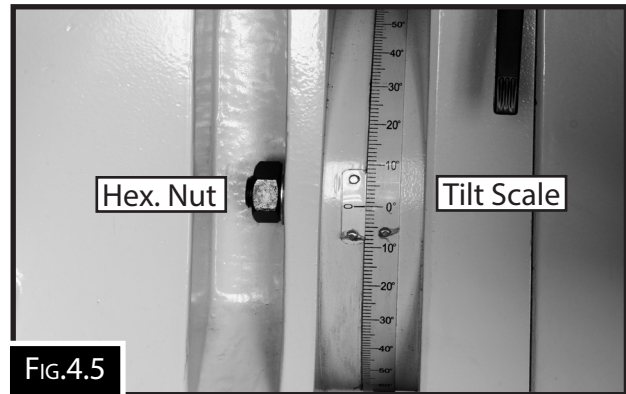
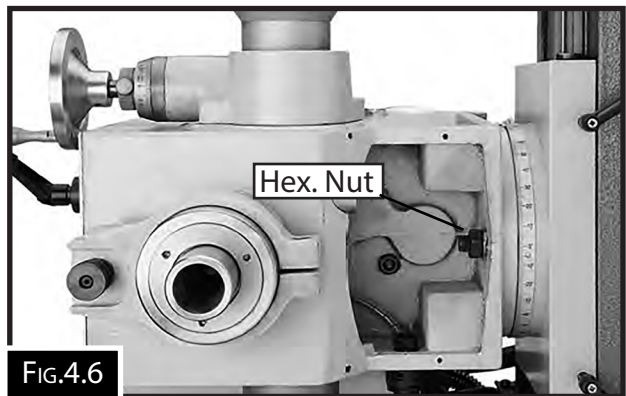

FIG.4.5
FIG.4.6
2. Loosen the three locking hex nuts a 1/4 to 1/2 a turn. There is one on either side of the head (Fig.4.5) and one under the bottom of the head (see Fig.4.6).